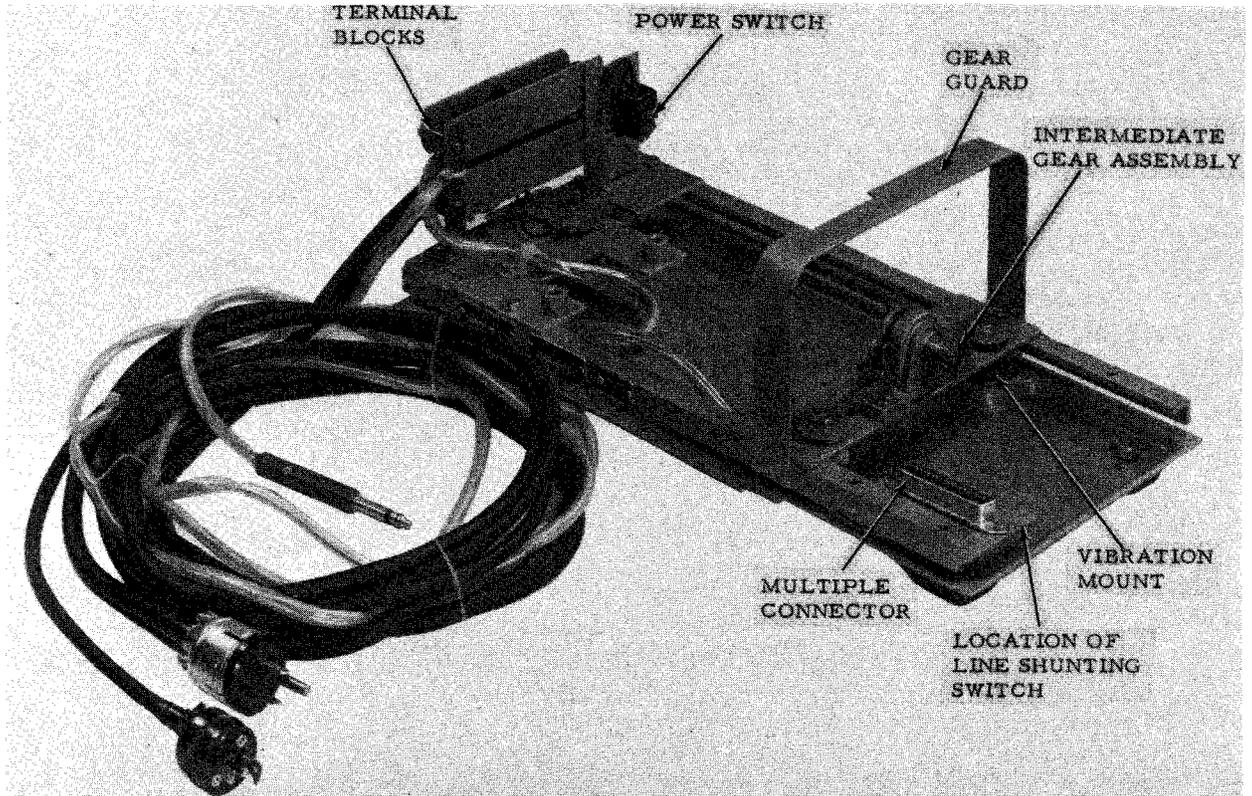
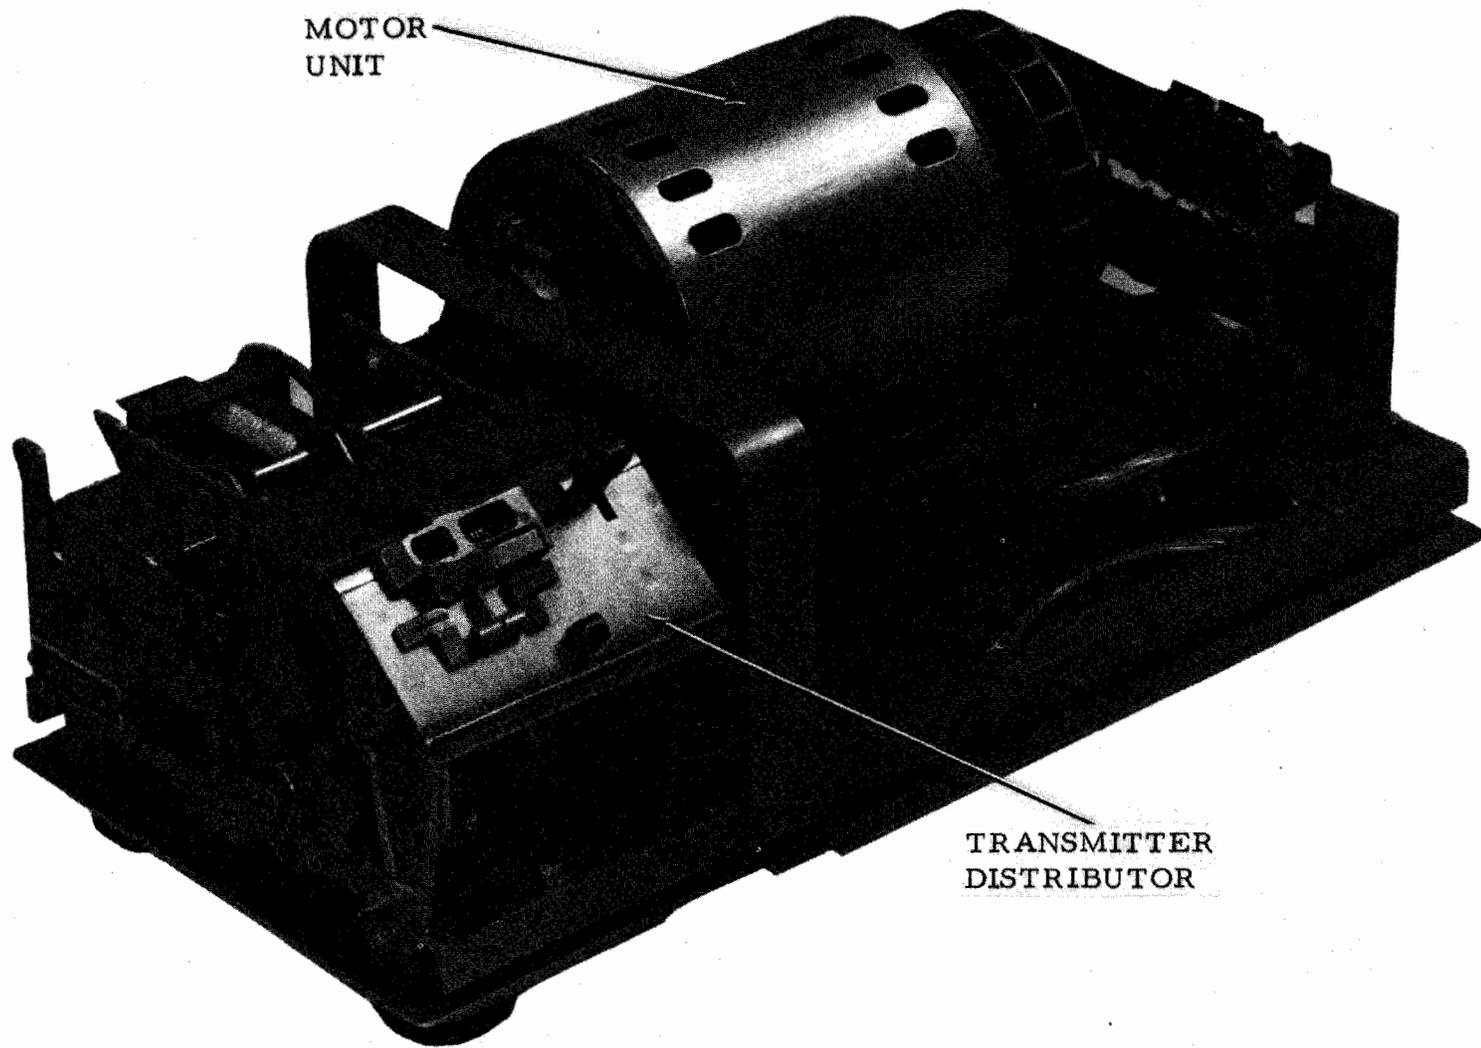

Figure 1-8. Transmitter Distributor Base - Single Contact, Single Mounting
Figure 1-9. Transmitter Distributor Base - Single Contact, Single Mounting (Transmitter Distributor and Motor Unit in Place)
(1) Single Contact Single Mounting Base. The base for the single contact TD (regular size) consists of two angle iron rails with cross plates that form a framework. The framework is fastened to a subbase (or oil pan on some models) by means of three vibration mounts which serve to reduce vibration (figure 1-8). Brackets are provided for mounting terminal blocks on which electrical connections are made. A guard is mounted above the location of the gears for protection. A multiple connector is mounted at the left front of the base for interconnection with a mating connector on the TD unit. A line shunting switch is provided on most bases adjacent to the multiple connector for keeping the line circuit closed when the TD unit is removed from the base. This switch is actuated by an adjusting screw on the TD unit. When the TD unit is placed on the base, the line circuit includes the TD before the line shunting switch opens. Terminal blocks and a power switch are mounted on brackets at the rear of the base where electrical connections are made. The base provides a rigid mounting support for the TD unit and a motor unit (figure 1-9).